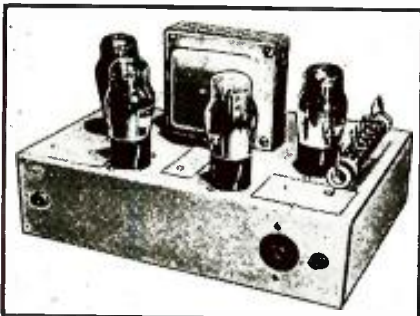

Fig. 1. Completed rectifier; extreme right, tapped keying bleeder connected across the output.
SIMPLE to construct, this trouble-free system will double the rectified output from your present power transformer. Ideal for public address systems, transmitters, power amplifiers, etc., outputs up to 500 watts may be obtained from receiving tubes! See Fig. 1.
Fig. 1. The components in the photo of the Universal 25-W. Amplifier are identified as follows: (1) and (2), vibrators; (3), microphone inputs 1 and 2; (4), phono inputs 1 and 2; the controls, 1. to 7., are: gain controls for mikes 1 and 2, gain controls for phonos 1 and 2, and L.F. and H.F. controls; (5), 1. to 2., master and standby pilots; (6), 1. to 2., master on-off and idler switches; and (7), economizer switch.
Although 2 vibrators are shown in the photograph of the amplifier (see Fig. 1), only 1 vibrator is employed at a time. In other words, for 6-volt operation, the 6-volt vibrator (toward the rear of the amplifier) is utilized. For 110/220 volts D.C., the other vibrator is used. For A.C. operation, neither vibrator is employed.